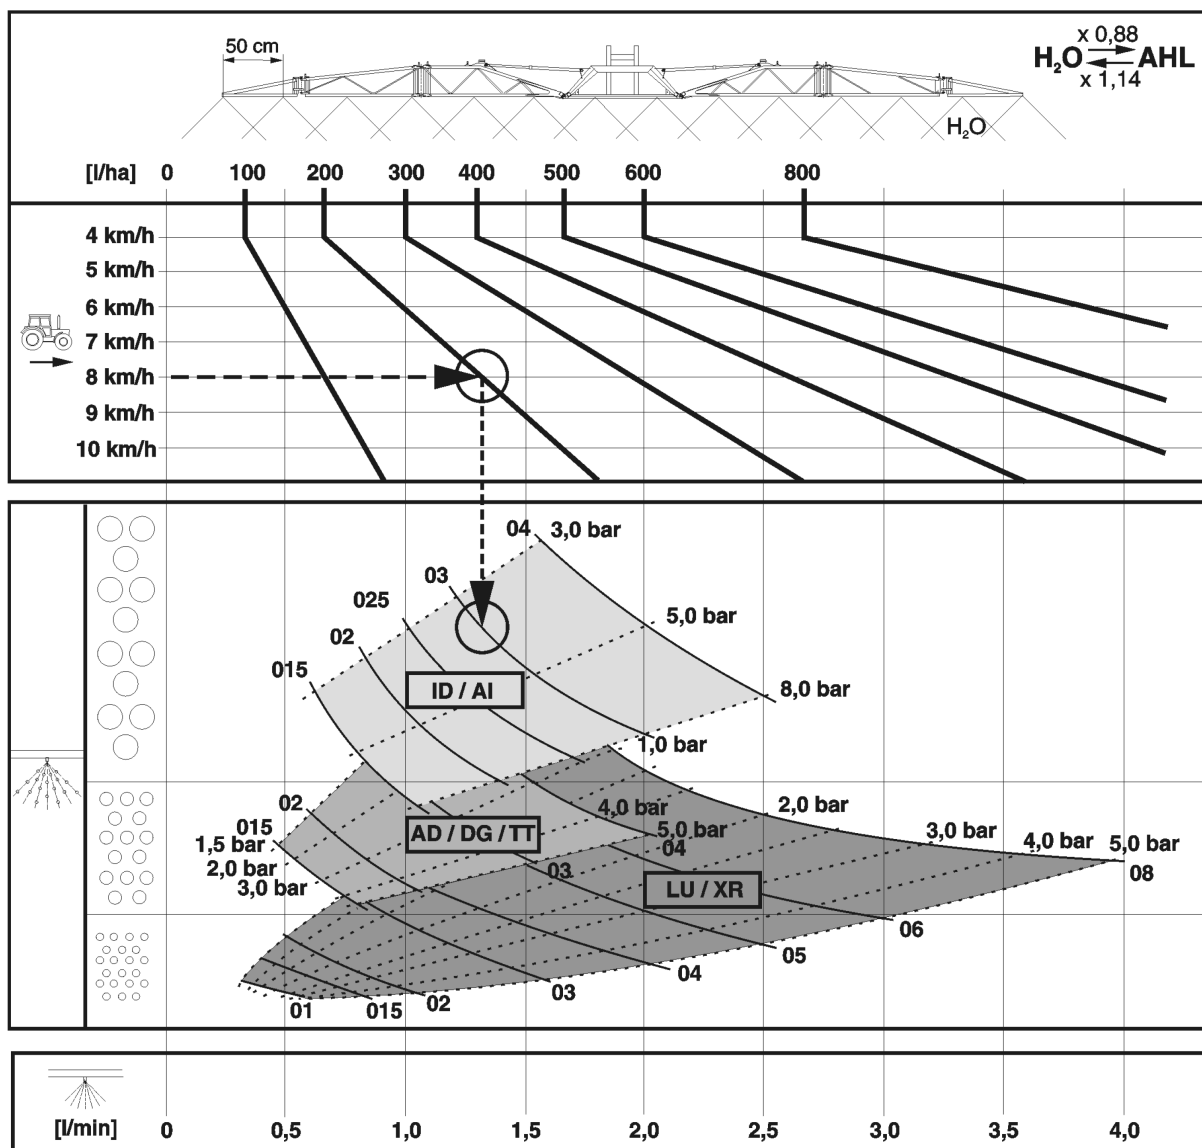

Fig. 148
- Fig. 148 helps with the selection of the right nozzle type. The nozzle type is determined by